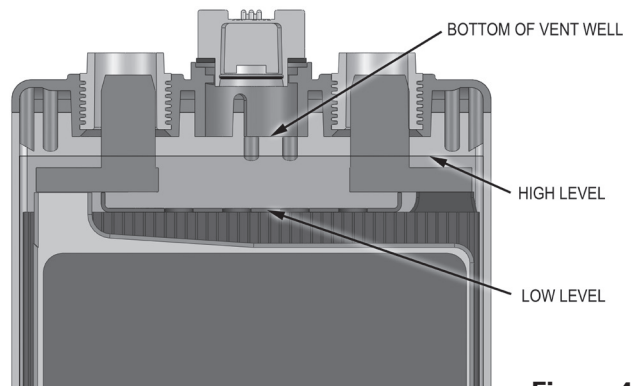

Figure 4
- An EnerSys-approved watering gun is a convenient and accurate tool to aid in watering as it fills to a pre-selected height and automatically shuts off; however, care must be taken to adjust the watering gun so it will water cells to levels following **Figure 4**, on the next page.
- Water should only be added to the battery when it is near the end of charge and gassing. As the electrolyte is at its maximum level during this time, it is a certainty that the level established by the addition of water will not be exceeded at any other time, and overflow of the electrolyte (flooding) will never occur. When watering near or at the end of the charge, sufficient water should be added to bring the level of the electrolyte between its upper limits. See **Figure 4** for details.
Figure 4: Sketch showing permissible high and low limits of electrolyte level. High-level marker indicates proper level immediately after charging. Low-level marker indicates immediately after charging watering is required. The high-level line is 1/4" below the bottom of the vent well.